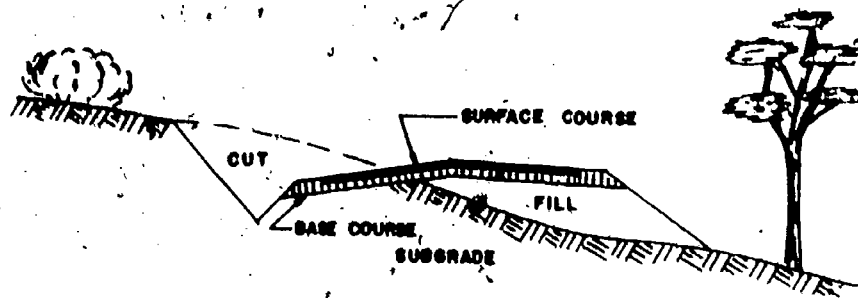

Fig 3-17. Structural parts of a road.
a. Structural parts of a road. Figure 3-17 illustrates a cross section of a road at a point where the construction is along the side of a hill, normally referred to as a "sidehill cut." The following discussion refers to this figure.
- (1) Cut. The term "cut" has two general meanings in road construction. It refers to an excavation through which the road passes, below the original ground level. A portion of a road can be described as a cut section, indicating that the necessary earthwork consists of earth removal below the original ground line. The left side of figure 3-17 is a cut section. Cut is also used to express the difference in elevation between the final grade line and the original ground line or the line to which construction has progressed. Thus the phrase "cut of 10 feet" would indicate that an excavation of 10 feet is required to attain final elevation.
- (2) **Fill.** A "fill" section is one at which the original ground line must be raised in order to bring the road up to final elevation. The right side of figure 3-17 is a fill section. The material used for this filling operation must conform to certain requirements of compaction and must be emplaced according to proper procedures which will give the load-bearing results required. "Fill" is also used to indicate the difference in elevation between the present ground line and desired final elevation. Fill needed to complete a road but not available from cut sections is known as "borrow".